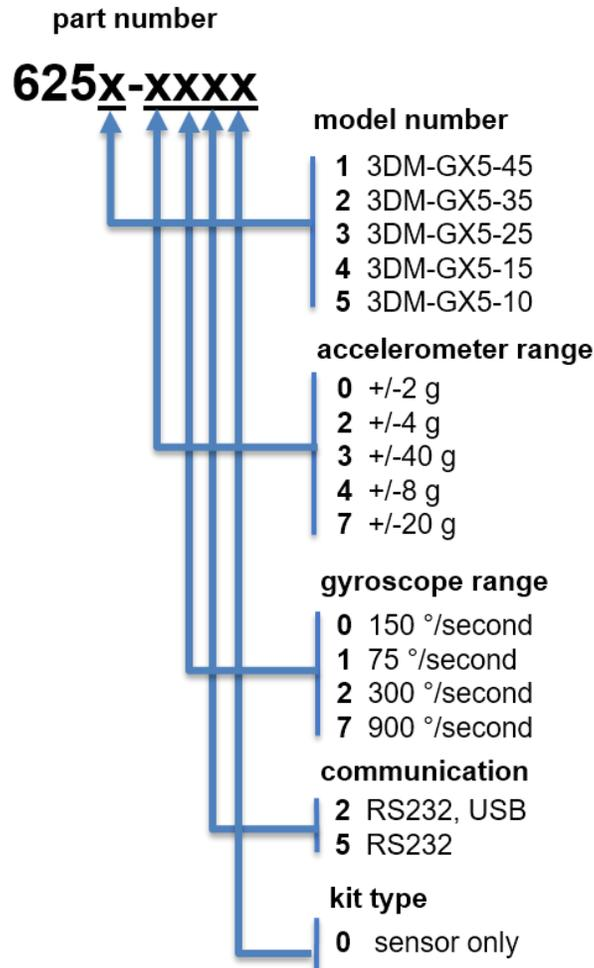

Figure 29 -Standard Part Numbers
*Table 3 - Model Numbers* describes the standard models available at the time this manual was published. Once a model is selected, the part number is further defined by desired configuration and interface options. The model determines the first four digits of the product part number; the options are indicated in the last four digits (*Figure 29 - Standard Part Numbers*).